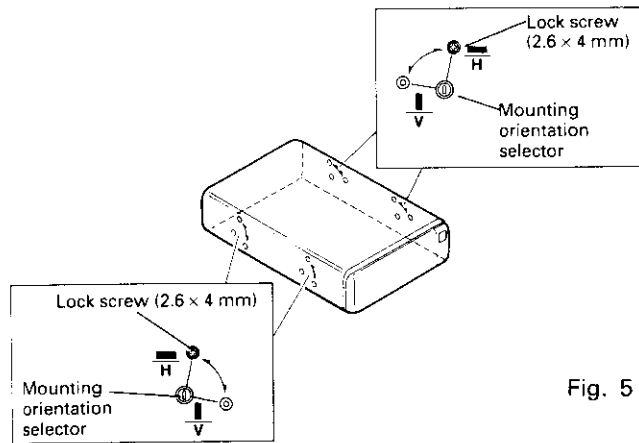

Fig. 5
- The player is set for horizontal use. Check that the lock screws (2.6 × 4 mm) that hold the shock absorption springs in the correct position are in the holes for H (horizontal) use, as shown in Fig. 5.